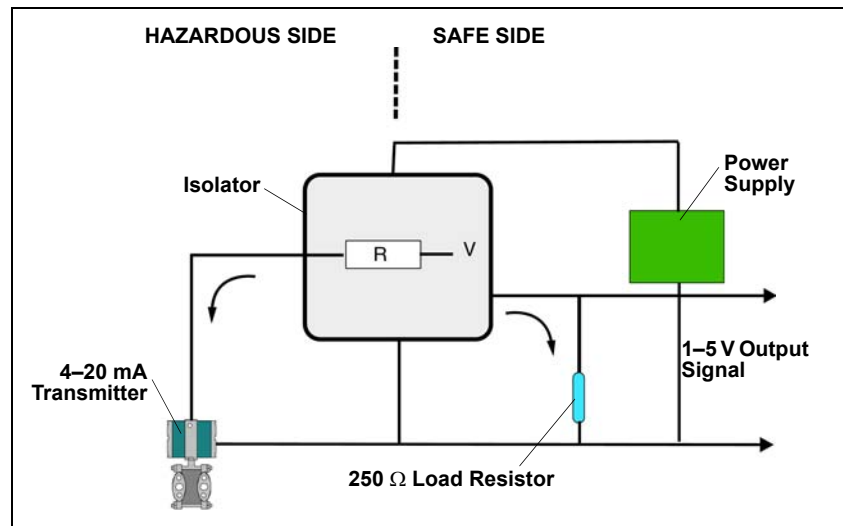

Figure 7: 4–20 mA Loop with Isolator
- *Isolators*, which do not require a ground connection, that repeat the analog measurement signal across an isolated interface in the safe-side load circuit (Figure 7 on page 19)